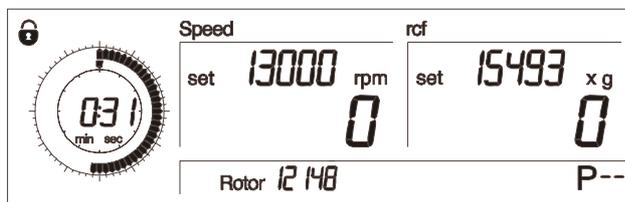

Fig. 5.18: Padlock symbol
- Turn the left rotary knob until a padlock symbol is displayed in the upper left corner of the display (Fig. 5.18).
After the activation of the function, the padlock symbol (Fig. 5.18) will flash. Now the centrifuge can be started and stopped, but the settings cannot be changed.